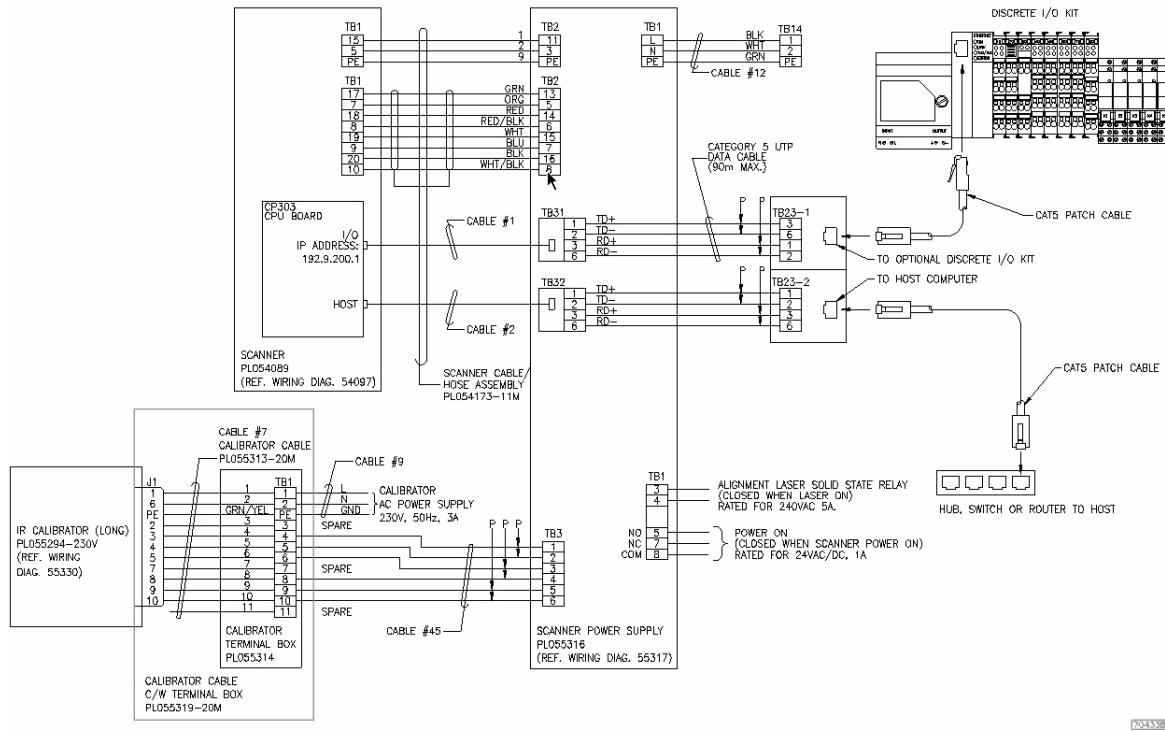

Figure 4.3 Communications and Logic Output Connection Points
Communications and logic output connection points are located in the scanner power supply (Figure 4.3). See also the corresponding Accuband interconnection diagram supplied with your system.
- **Scanner power on indication:** Contacts TB1-5 and TB1-8 (Figure 4.3) are closed when power is ON, contacts TB1-5 and TB1-6 are closed when power is OFF. Contact rating is 24 VAC/DC, 1A. Refer to the cable list supplied with your system for recommended cable type.
- **Remote laser on indication:** Contacts TB1-3 and TB1-4 (Figure 4.3) are closed when the laser is ON. Contact rating is 240 VAC, 5 A. Refer to the Cable list supplied with your system for recommended cable type.